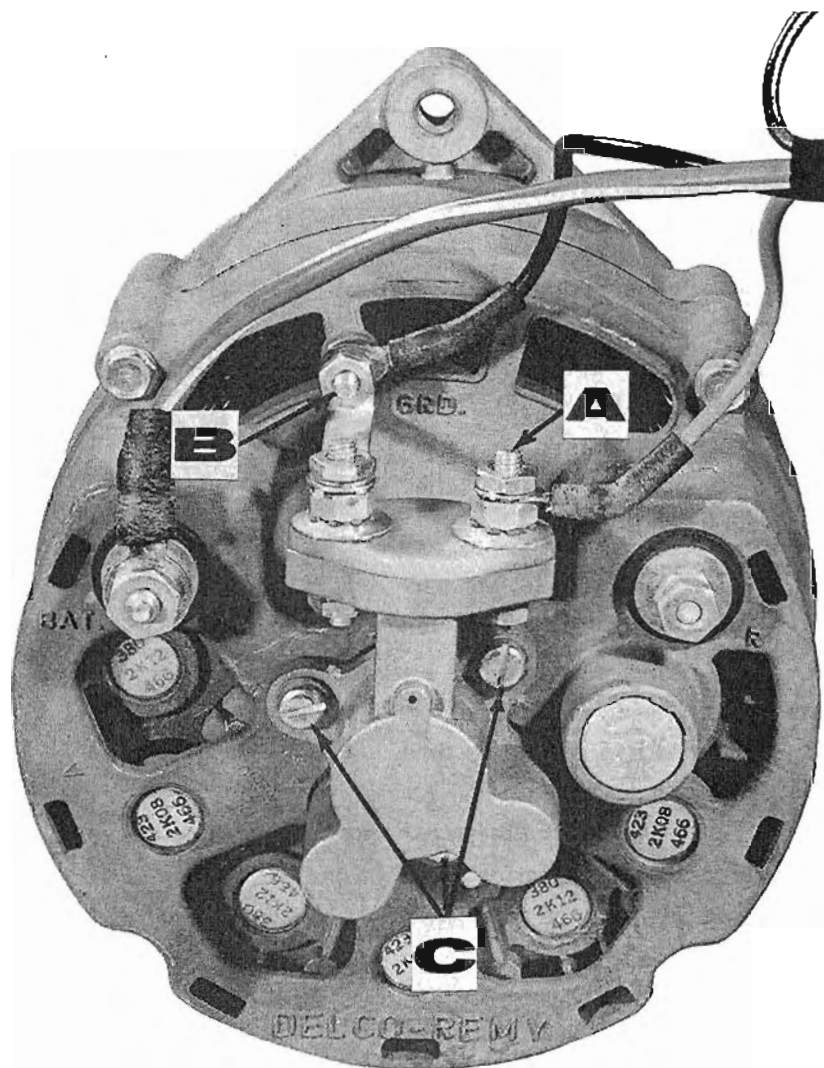

Figure 2. Brush Holder Assembly
2. Disconnect blue wire (field lead) from stud in brush holder. ("A" in Figure 2)
3. Disconnect black wire (ground lead) from ground stud in alternator frame and remove stud. ("B" in Figure 2)
4. Remove 3 pan head screws which fasten brush holder to alternator end frame ("C" in Figure 2) and remove brush holder and gasket from end frame.
1. Install new brush holder assembly, using new gasket and 3 pan head screws. ("C" in Figure 2) Always use correct brush holder screws and washers. If screws are too long, they will bottom against heat sink and ground out alternator.
5. Connect black wire (ground lead) to ground stud in ("Grd") in alternator frame with lockwasher and nut. ("B" in Figure 2)
6. Connect blue wire (field lead) to right brush holder stud with wave washer and nut. ("A" in Figure 2)